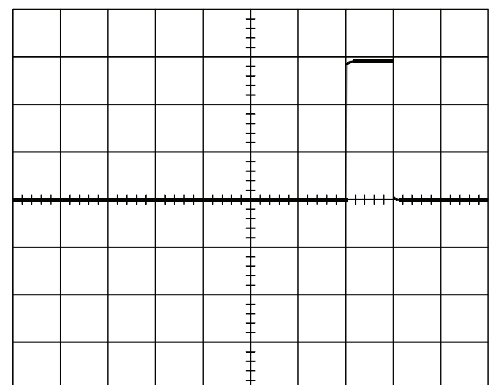

Figure 4
**Note 1:** The *FS* signal's pulse should be one division wide as shown in Figure 4. If it's not, adjust the function generator's output frequency until it is.